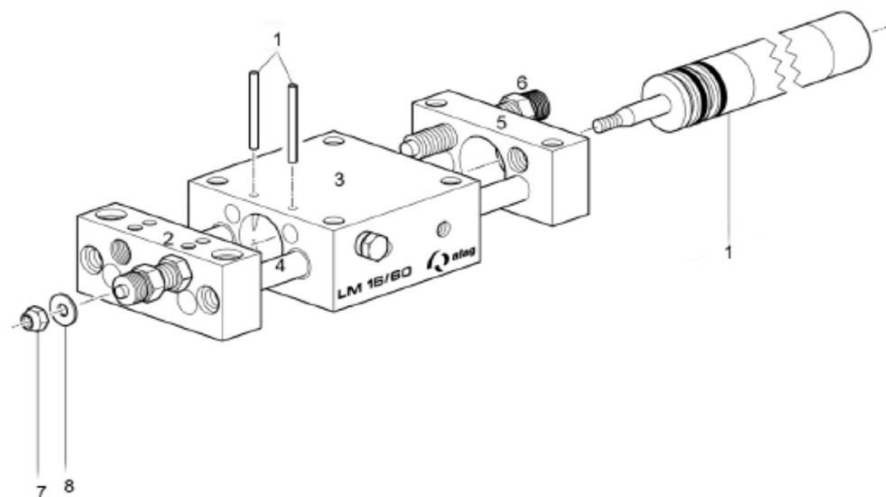

Fig. 23 Replacing wear parts - LM 16
1. Fasten the housing (Fig. 23, 3) in a vice and loosen the lock nut (Fig. 23, 7) - while holding the piston rod.
2. Remove the washer (Fig. 23, 8).
3. Press out the two dowel pins (Fig. 23, 1) on the hand press.
4. Remove the cylinder (Fig. 23, 1) to the rear from the housing (Fig. 23, 3).
5. Clean the housing (Fig. 23, 3).
1. Insert the new cylinder (Fig. 23, 1) into the housing (Fig. 23, 3).
2. Press 2x dowel pins (Fig. 23, 1) into the housing (3) using a hand press.
3. Insert the piston rod into the front plate (Fig. 23, 2) and put on the washer.
4. Hold the piston rod and screw the nut (Fig. 23, 7) on the piston rod.
7. Carry out a final check before installing the module: The guide shafts (Fig. 23, 4) must be movable in the housing (Fig. 23, 3).